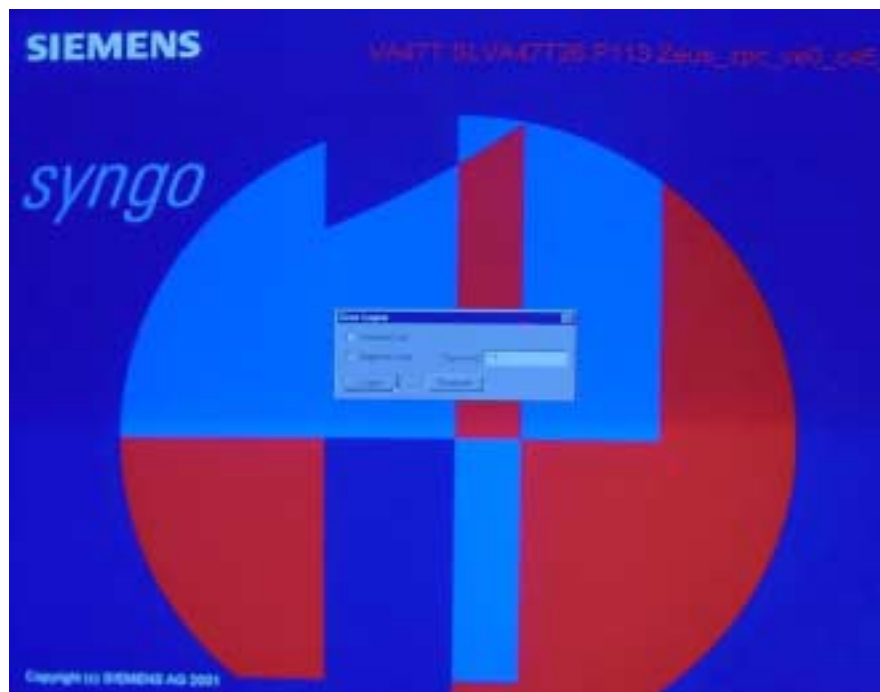

Figure 13-46 Syngo boot screen
5. Immediately press and hold *Shift* key, after all tabs disappear and Syngo Screen (see Figure 13-46) appears.